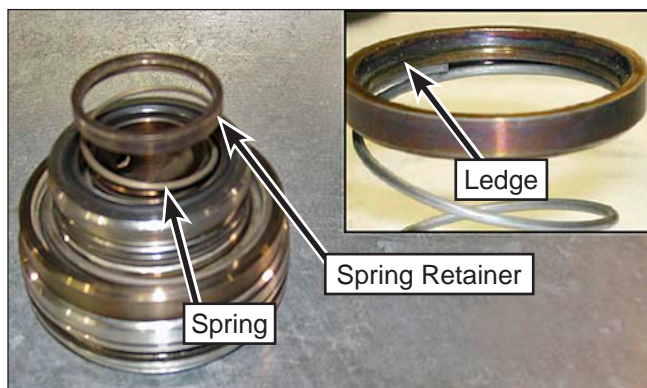

Figure 80: Spring and Retainer Installation.
4. Insert the suction valve spring and spring retainer into the valve body. Ensure the ledge the retaining ring sits on is positioned properly (Figure 80).